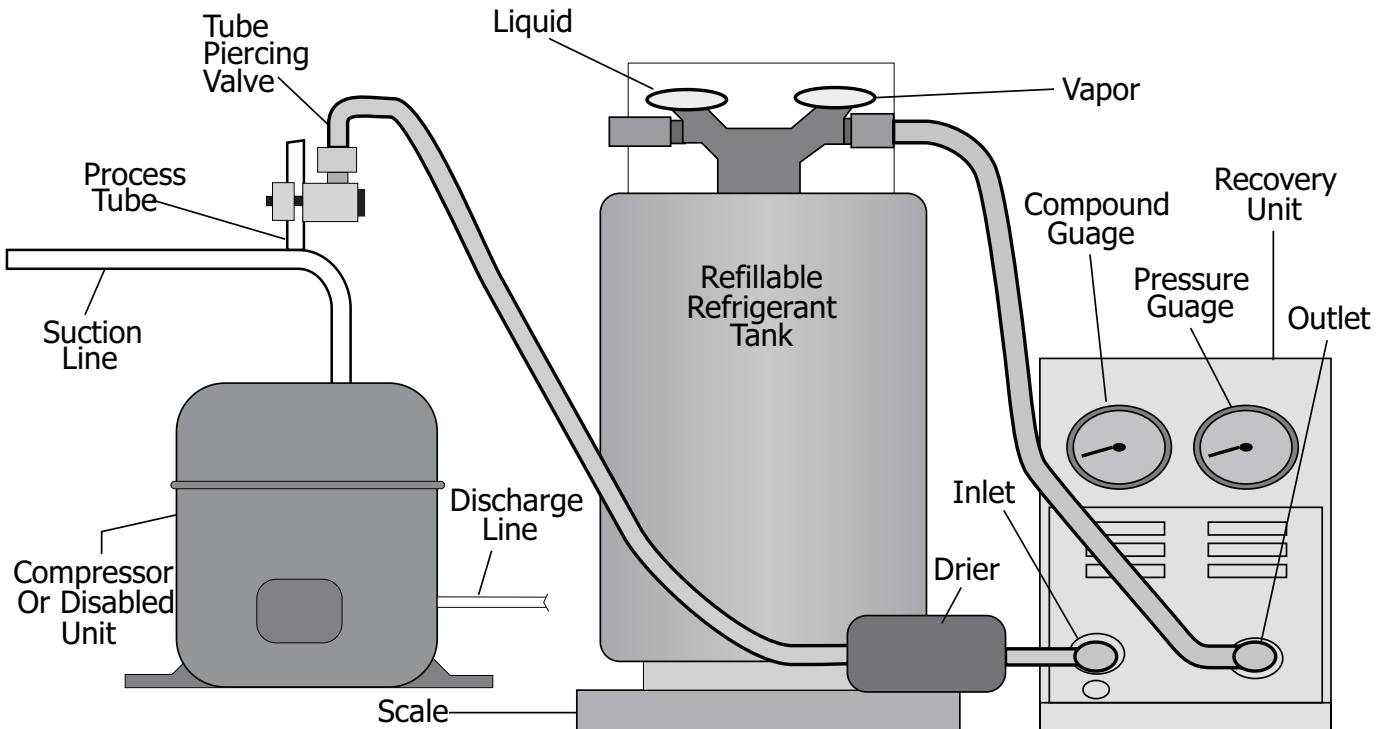

Figure 6-3. Installation of Recovery Equipment
2. Attach an approved self tapping line tap valve to the process tube. Connect refrigerant recovery system to tap valve. Turn on recovery system, open the line tap valve, and allow refrigerant to flow into an approved tank. (See Figure 6-3)